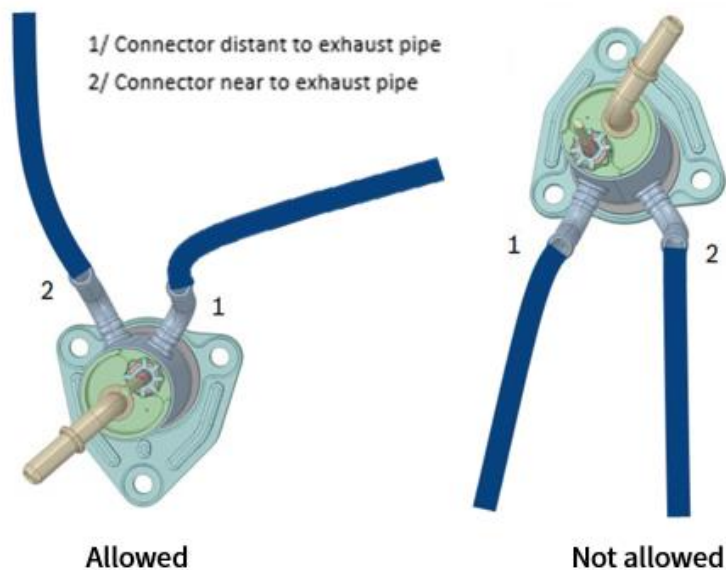

Figure 4-Q. Dosing module coolant hose
- The DM **cooling** tank should be installed for cooling of the DM and prevention of thermal damage. The layout of the **cooling** tank is shown in Figure 4-R. The **cooling** tank should be positioned higher